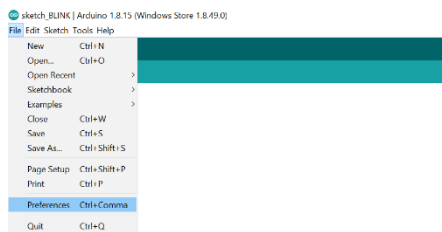

Figure 1.21.1
- Open Arduino IDE and got to File -> Preferences and paste the following into the Additional Board manager URLs: box as shown in the following figures 1.21.1 , 1.21.2 and 1.21.3.